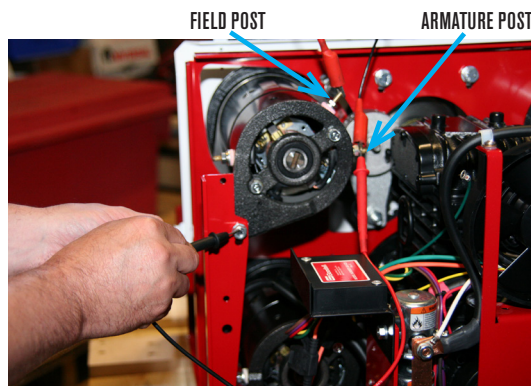

FIG. 2
2. Remove all the wires from the generators and label them for re-installation. Install a bypass lead between the field post (small terminal on top of the generator) and armature post (large terminal on top of the generator). (FIG. 2)